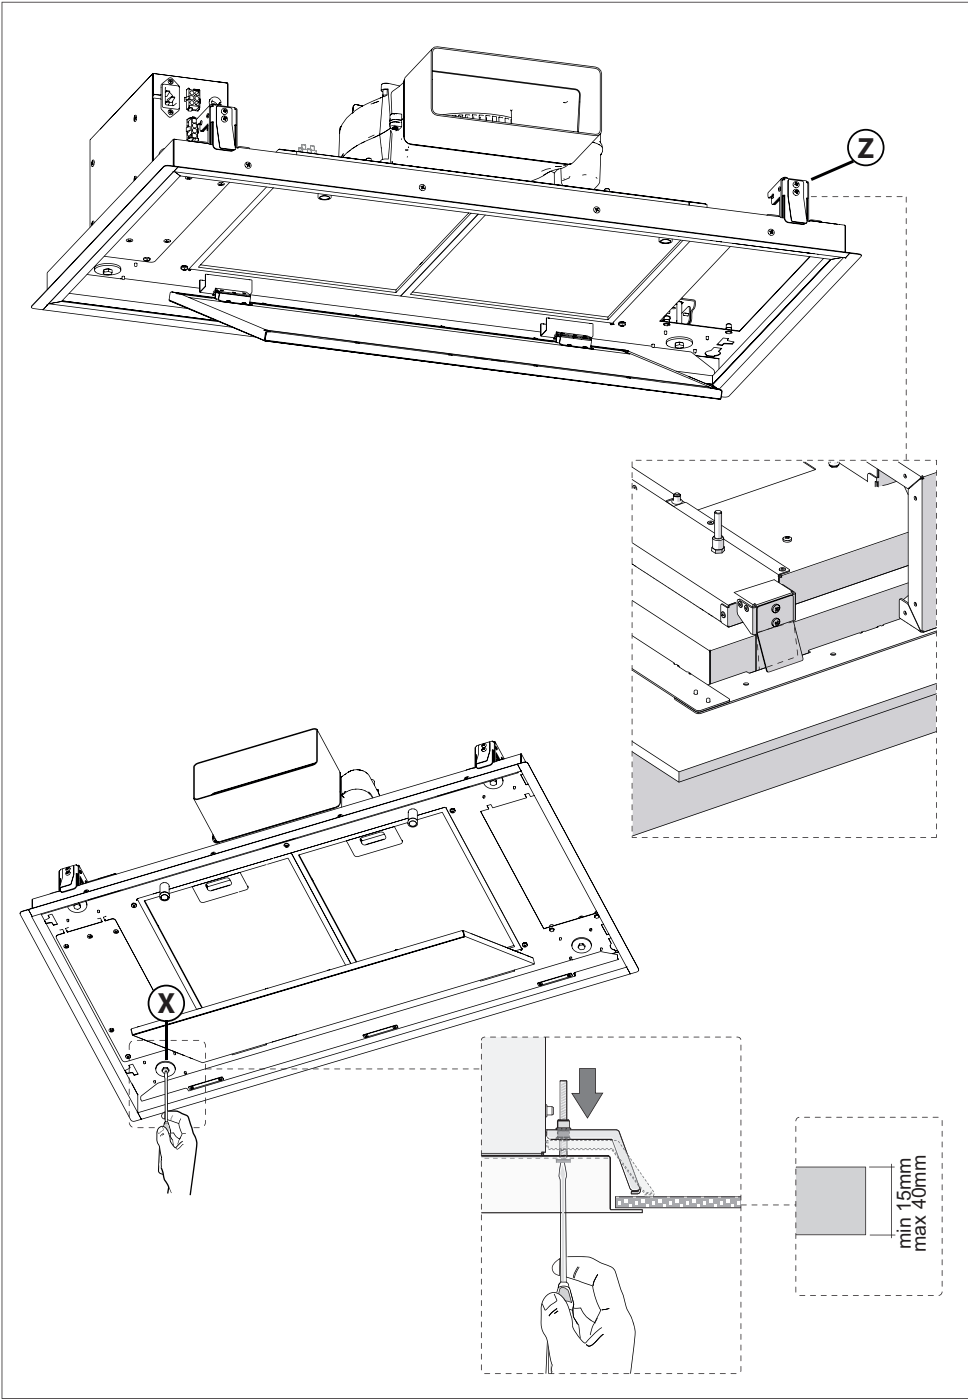

Fig.10
- Lift the hood body and insert it into the hole until the springs Z have passed completely and tighten the screws X (Fig.10).